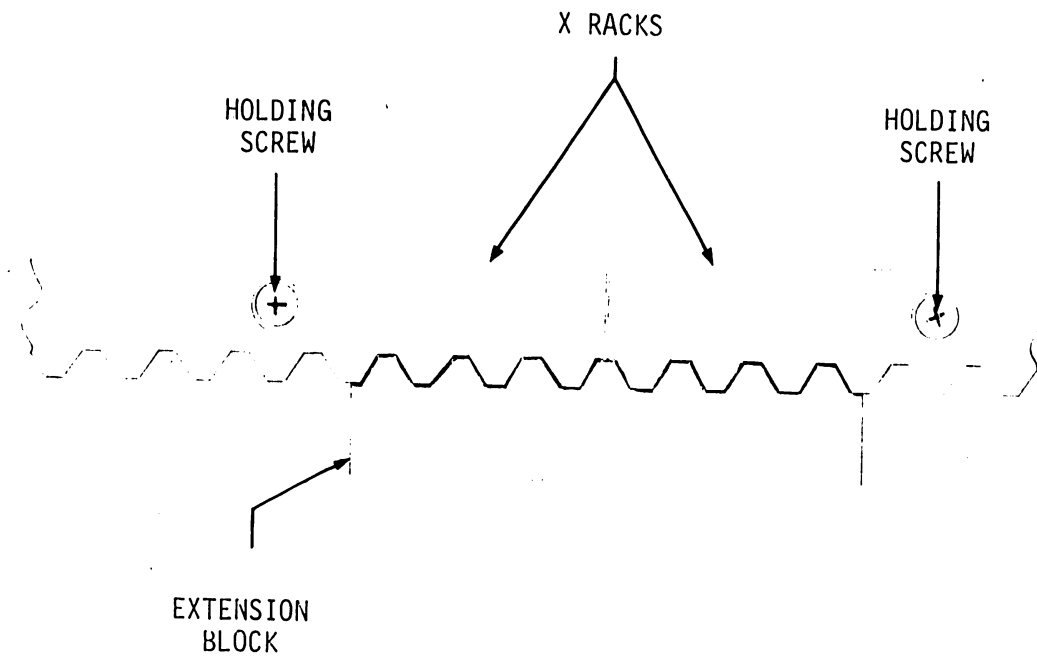

FIGURE 19
- 2) Seat an extension block into the teeth of the two adjoining racks to be aligned. See Figure 19.